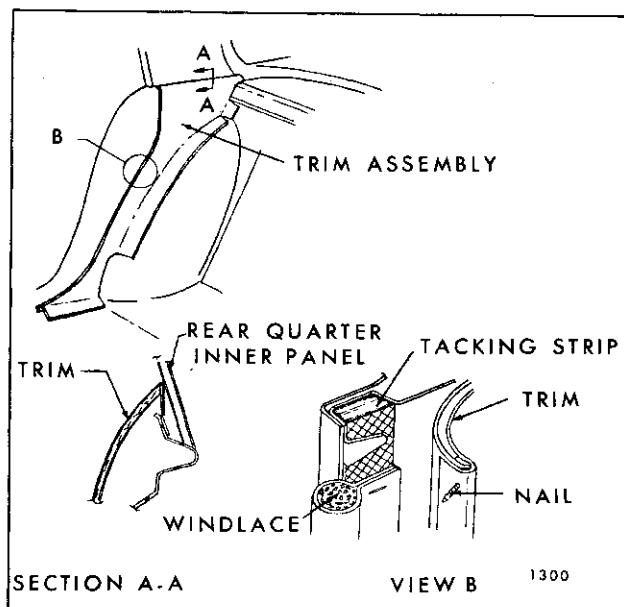

Fig. 14-26—Rear Quarter Lower Trim Assembly - "B-C 39-49-69" Styles
4. On “B” and “C” Styles, insert tool J-6335 or equivalent under leading edge of trim and pry retaining nails from tacking strip (Fig. 14-26).